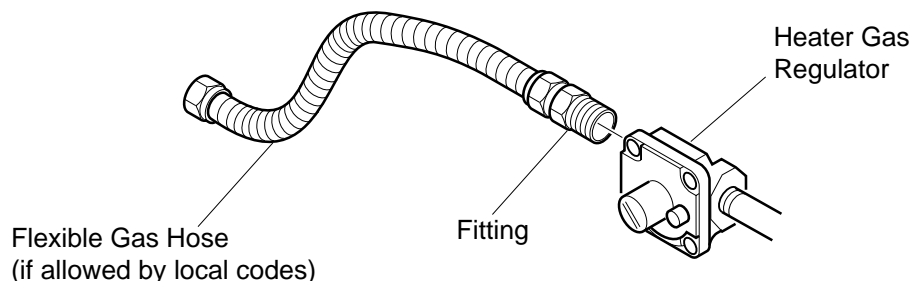

Figure 11 - Attaching Flexible Gas Hose to Heater Gas Regulator
- sealant resistant to propane (LP) gas, not provided
1. Apply pipe joint sealant lightly to male threads of the fitting to be threaded into gas regulator. Connect approved flexible gas hose to gas regulator of heater (see Figure 11).